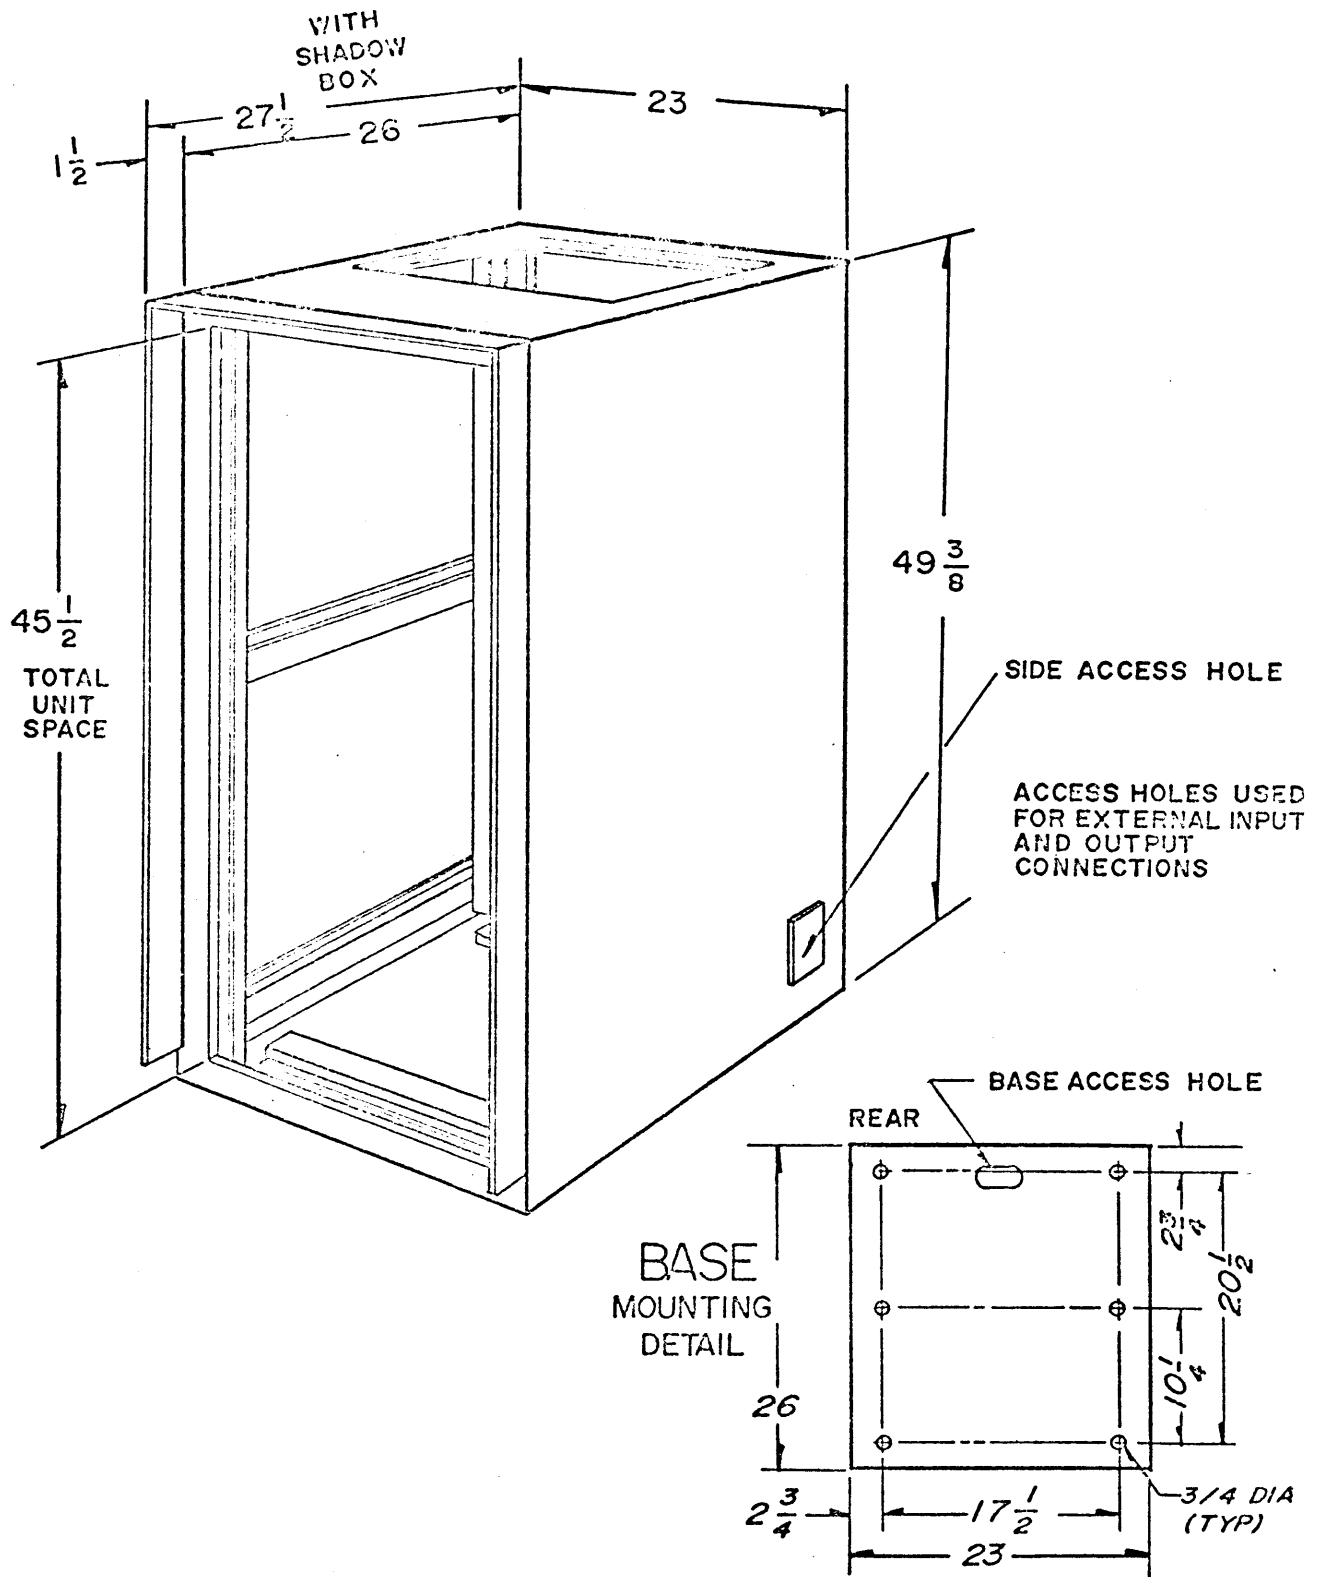

Figure 2-2. Equipment Cabinet Dimensions
b. Equipment Cabinet Installation. Remove equipment cabinet from crate and position upright (mounting holes and primary power input jack are located on the bottom portion of the equipment cabinet). Position the equipment cabinet in the desired location, allowing a minimum clearance of two feet on the top and all sides for maintenance and installation purposes. (Refer to figure 2-2 for cabinet dimensions.) It is of particular importance that a minimum clearance of two feet be allowed in the rear of the cabinet for door removal and external cable connections.
Using mounting hardware and the holes located in the base of the cabinet, secure the equipment cabinet in position. (Refer to figure 2-2 for mounting detail.)